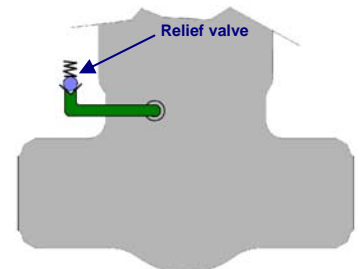

Fig. 10
- Relief valve (Fig. 10 & 11), connecting the body cavity to the atmosphere, is another way to provide pressure relief, however the exhaust from the self-activating type relief-valve must be piped to a safe location.